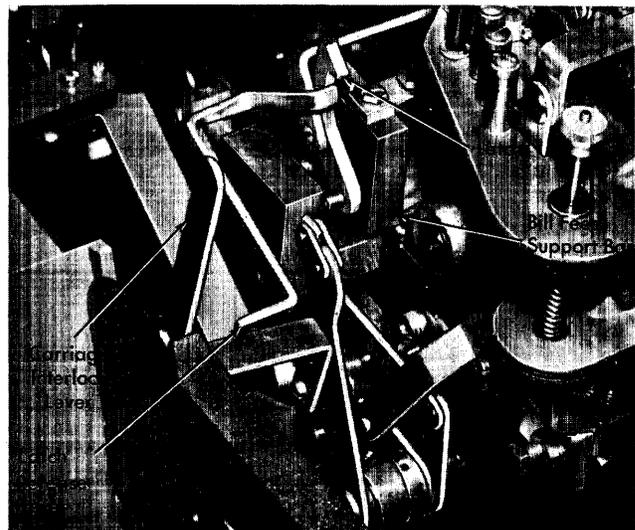

Figure 100. Carriage Interlock and Bill Feed Latch Assembly
4. Pull the carriage interlock lever on the accounting machine forward as far as it goes to permit raising the carriage. This lever is located at the left end of the typebars under the machine cover (Figure 100). (When the carriage is to be used, this lever must be pushed back to make the carriage operative.)
1. Place the bill-feed support bar (Figure 100) in position immediately behind the typebars and screw it onto the machine frame. On top of each end of the support bar is a button, and when the bill feed is lowered, it rests on these buttons. The support-bar assembly also includes two latches that hold the bill feed in operating position, and a lever on the left end that releases the latches in order to raise the bill feed (Figure 100).
is accessible when the right side cover of the bill feed is open. The proper setting of the index varies from one bill feed to another. Consult an IBM customer engineer to determine the setting for each bill feed. The usual setting is 6 degrees or 186 degrees. The index is set by turning the first-printing-line crank mechanism counterclockwise to advance the index until the proper position lines up with the scribed line on the index pointer above. Use the hand lever wrench (Figure 100) to turn the mechanism to the desired index.
5. Make sure that the bill feed is lowered as far as possible and is latched in operating position, so that it cannot be raised without lifting the release lever on the left end of the support bar (Figure 100). If the bill feed cannot be lowered far enough to latch into position, the gears probably are not meshed. In this case, raise the bill feed
1. Pull the carriage interlock lever forward as far as it goes (Figure 100).